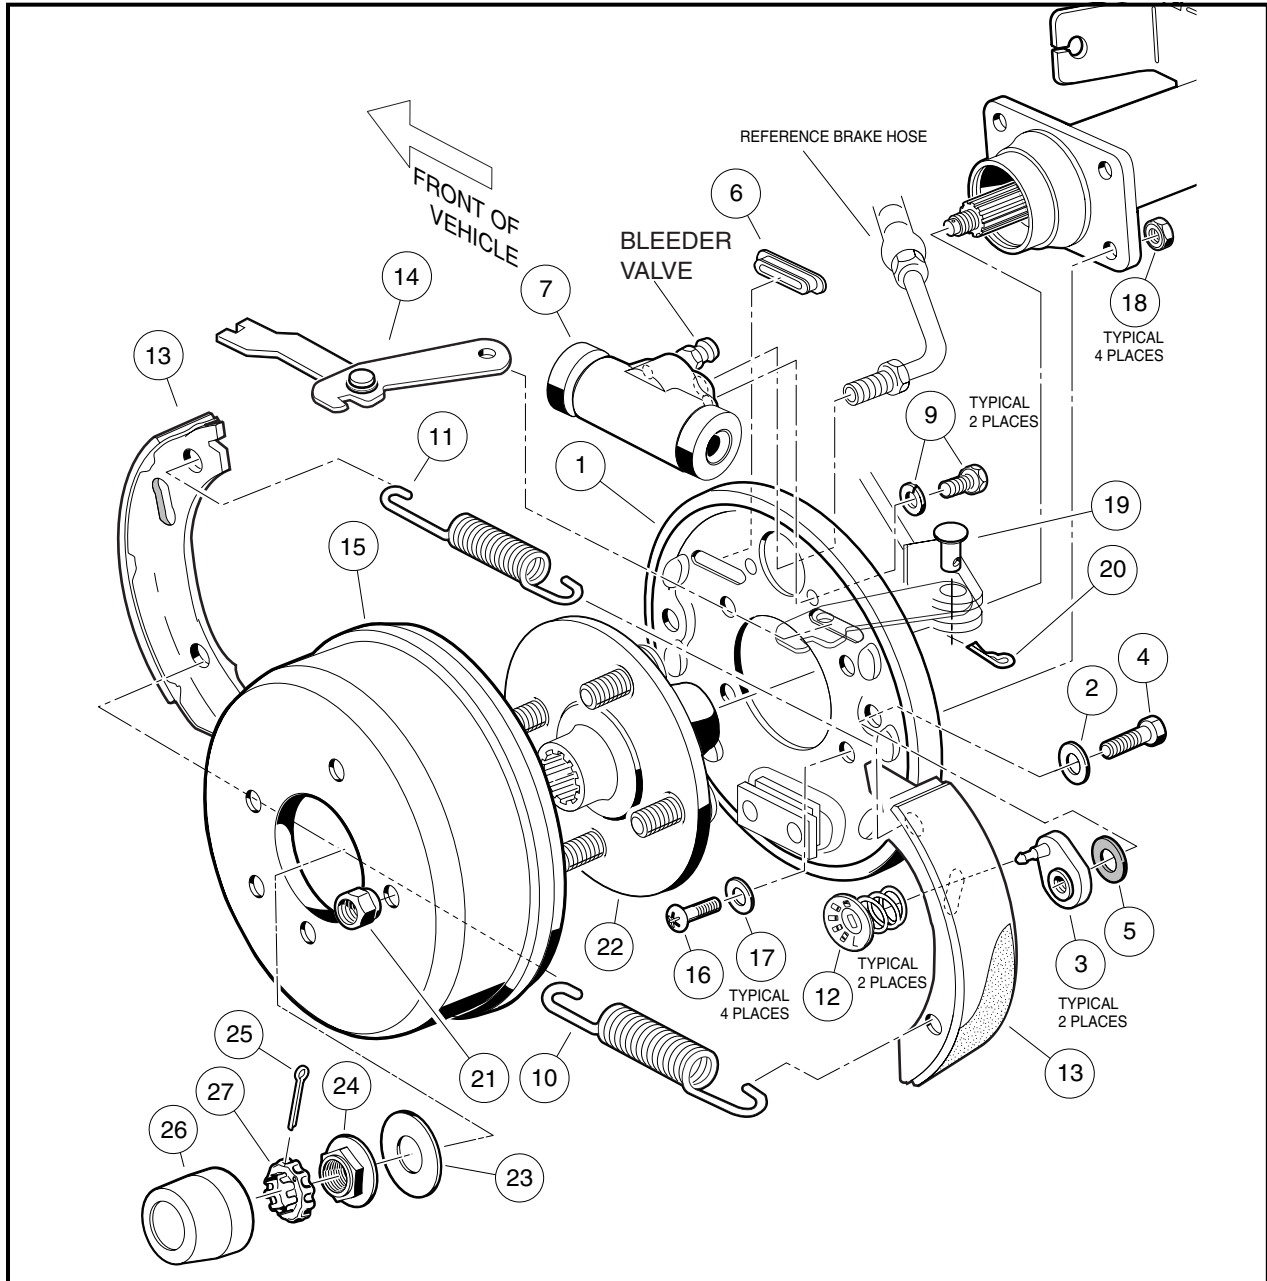

Figure 6-19 Rear Hydraulic Brake Cluster Assembly
1. Place the brake drum (15) onto the wheel bolt flange and brake cluster (**Figure 6-19, Page 6-21**). See following **NOTE**.
- Do not apply more than 65 in-lb (7.3 N·m) of torque to any of the adjuster bolts. Overtightening the adjuster bolts could result in damage to the brake cluster components or the separation of the bolt (4) from the adjuster (3) (**Figure 6-1, Page 6-2** or **Figure 6-19, Page 6-21**).
5. Install the wheel and finger-tighten the lug nuts (21) (**Figure 6-19, Page 6-21**).
8. Use a Torx #T-40 driver and remove the four Torx-head bolts (16), washers (17), and lock nuts (18) that secure the brake cluster back plate to the axle tube flange (**Figure 6-19, Page 6-21**).
1. Install the back plate to the axle tube flange with four new Torx-head bolts (16), washers (17), and lock nuts (18). Tighten all four bolts to 76 in-lb (8.6 N·m) (**Figure 6-19, Page 6-21**). See following **CAUTION**.
5. Remove two bolts (9) and lock washers that secure the wheel cylinder to the mounting plate (1), and remove the wheel cylinder (7) (**Figure 6-19, Page 6-21**).
1. Install wheel cylinder (7) with two new bolts (9) and lock washers and tighten the two bolts to 120 in-lb (13 N·m) (**Figure 6-19, Page 6-21**).
4. Grip adjuster arm (3) with a pair of locking pliers and use a Torx #T-27 driver, or 7/16-inch socket to remove the bolt (4), flat washer (2), and Bellville washer (5) from the back plate (1) (**Figure 6-19, Page 6-21**). Remove remaining adjuster assembly and discard all adjuster components (3, 4, 2, and 5) for both assemblies.
1. Install bolt (4) and flat washer (2) to the back plate (1) (**Figure 6-19, Page 6-21**).
2. Apply a light coat of grease to the Bellville washer (5) and install the washer onto the bolt (4) and against the inside surface of the back plate (1).
3. Carefully apply Loctite 222 to the threaded portion of bolt (4) and attach the adjuster arm (3). Position adjuster so that the brake mounting post is to the top of the back plate.
4. Grip adjuster arm (3) with a pair of locking pliers and tighten the bolt (4) to 115 in-lb (13 N·m).